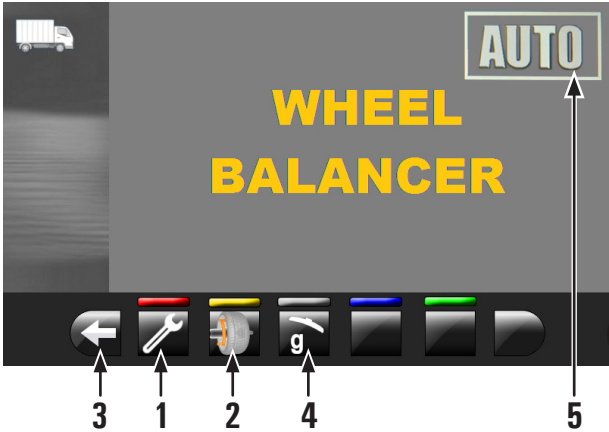

Fig. 78
Press the button (Fig. 77 ref. 3) to display a second page where you can access "Technical assistance" and "Run-out" menu (see Fig. 78).